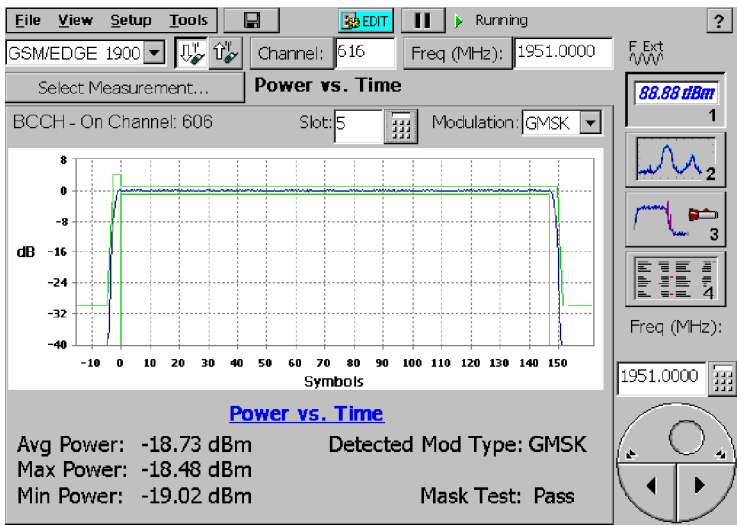

Figure 3-40: GSM/EDGE Power vs. Time measurement
5. Tap **Power vs. Time**. See Figure 3-40.